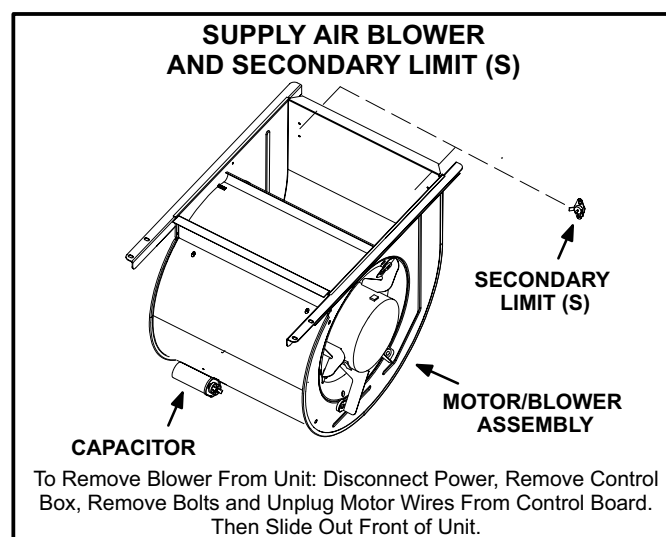

FIGURE 5
The secondary limit (S21) on G60UH(X) units is located in the blower compartment on the back side of the blower housing. See figure 5. Blower speed chart on the wiring diagram show secondary limit quantities per unit. When excess heat is sensed in the blower compartment, the limit will open. If the limit is open, the furnace control energizes the supply air blower and closes the gas valve. The limit automatically resets when unit temperature returns to normal. G60UH-1 through -4 units use surface type limits factory set to open at 125°F. G60UH-5 units and later use air stream type limits factory set to open at 135°. The secondary limit cannot be adjusted.